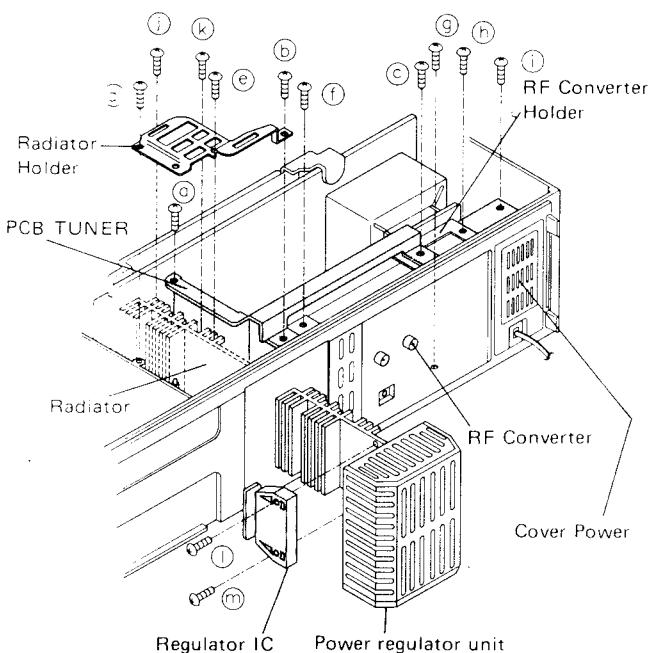

Fig. 2-11
- 1) Remove the three screws (**a**, **b** and **c**) retaining the PCB TUNER as shown in Fig. 2-11.
- 2) Remove the three screws (**f**, **g** and **h**) retaining the RF converter as shown in Fig. 2-11.
- 1) Remove the two screws (**d** and **e**) retaining the Radiator holder as shown in Fig. 2-11.
- 2) Remove the two screws (**j** and **k**) retaining the power regulator unit and sliding toward the rear side as shown in Fig. 2-11.
- 3) Remove the two screws (**l** and **m**) retaining the regulator IC and remove the regulator IC from the Radiator as shown in Fig. 2-11.